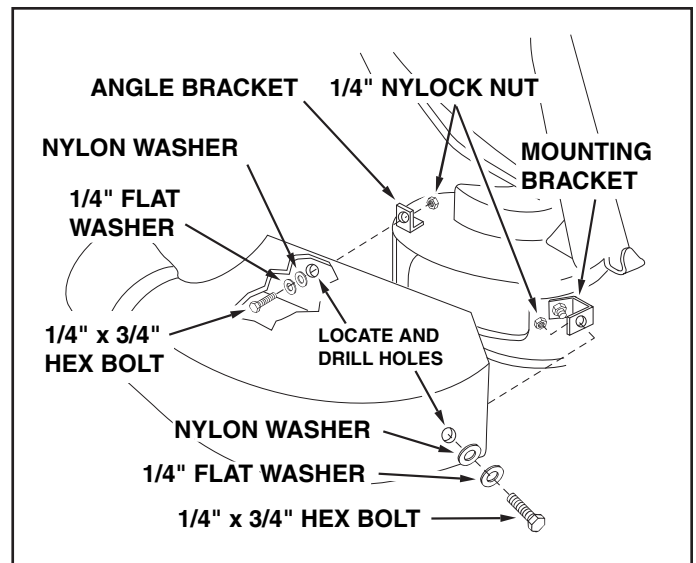

**FIGURE 29**
1. Cut out two templates and place on deck adapter as shown in figure 29. Tape smaller one on top and larger one on the side and bottom. After they are in place, carefully mark around the templates, then cut out adapter to obtain correct opening.
2. Bolt end of mounting strap to the 5/16" bolt on the mower deck. The other end of the strap will bolt to a hole in the deck adapter, which must be drilled. Position the adapter on the deck, then drill a 5/16" hole in the bottom of the adapter that will align with the hole in the strap. Fasten the adapter to the strap using a 1/4" x 3/4" hex bolt, 1/4" flat washer, nylon washer and 1/4" nylock nut. See figure 29.